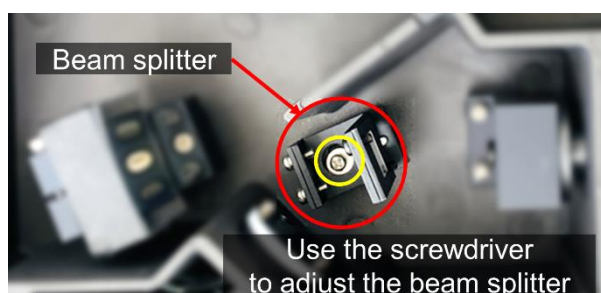

Figure 16. How to adjust the beam splitter.
- i. If not, you should adjust the beam splitter to left and right side as shown in Figure 16.